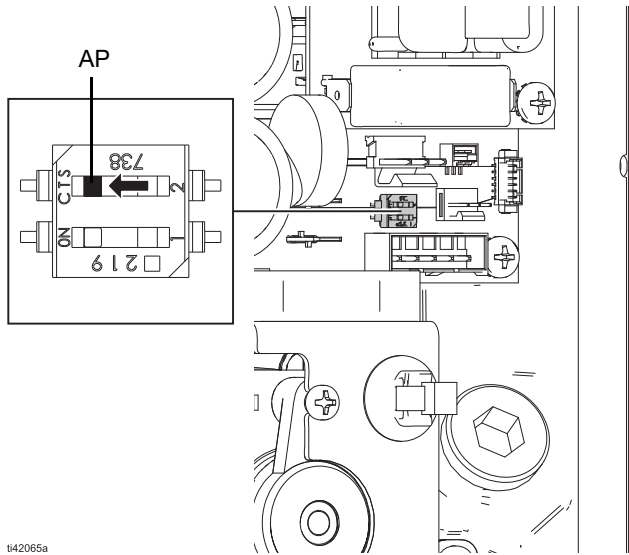

FIG. 12: Disable Auto-Prime
2. Locate the auto-prime switch (AP). See FIG. 12 or **Electrical Schematics** in the motor manual.
3. Push the auto-prime switch (AP) to the left (off) position.